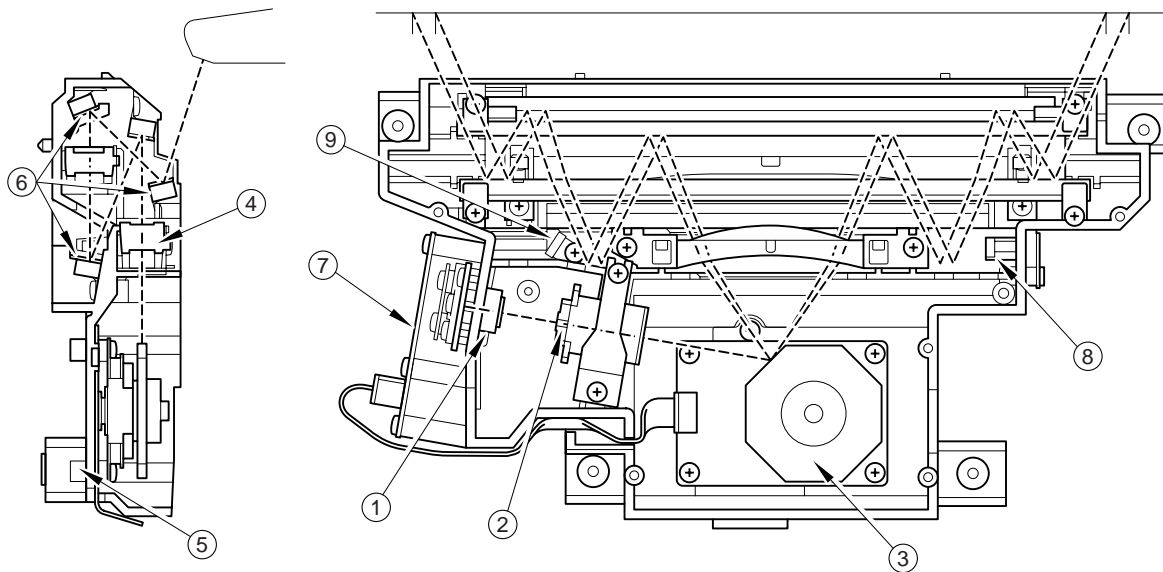

Fig.4-23
### (1) Structure of Laser Unit (Refer to Fig.4-23.)
Laser assy PU is located as shown in Fig.4-23.